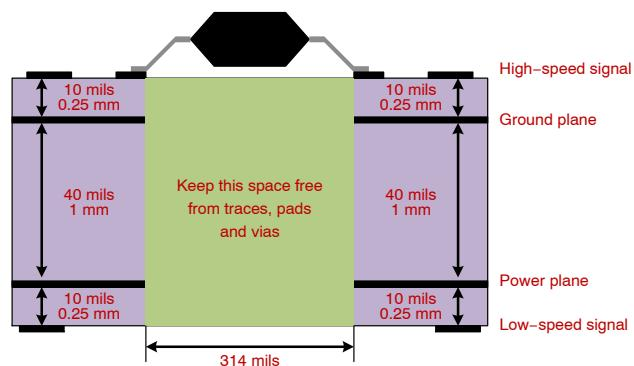

Figure 66. Recommended Layer Stack
- To ensure isolation performance between the primary and secondary side, any PCB traces or copper should be not place under the driver device as shown in Figure 66. A PCB cutout is recommended in order to prevent contamination that may impair the isolation performance of NCV51563.